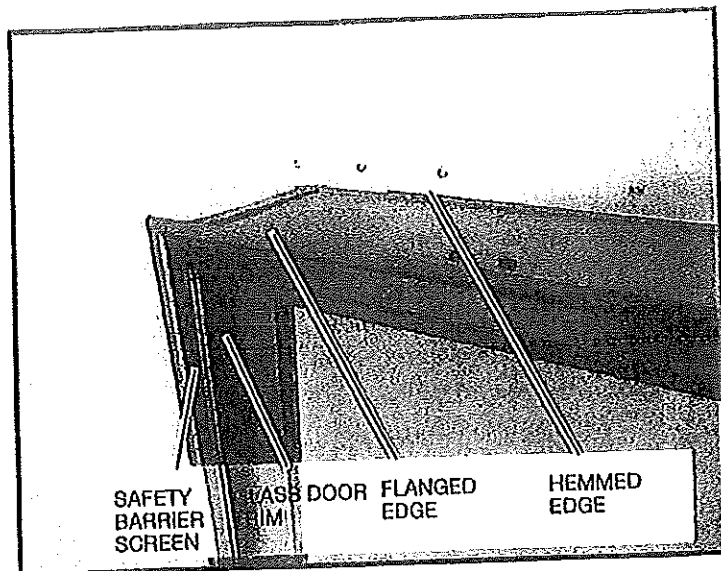

Figure 20: Lintel and trim.
1. The adjustable lintel assembly has two orientations for desired finishing. The flanged edge and the hemmed edge (Figure 20). The lintel comes factory installed with the flange edge out. If the desired edge is different from the factory setting, use the following steps to change it.